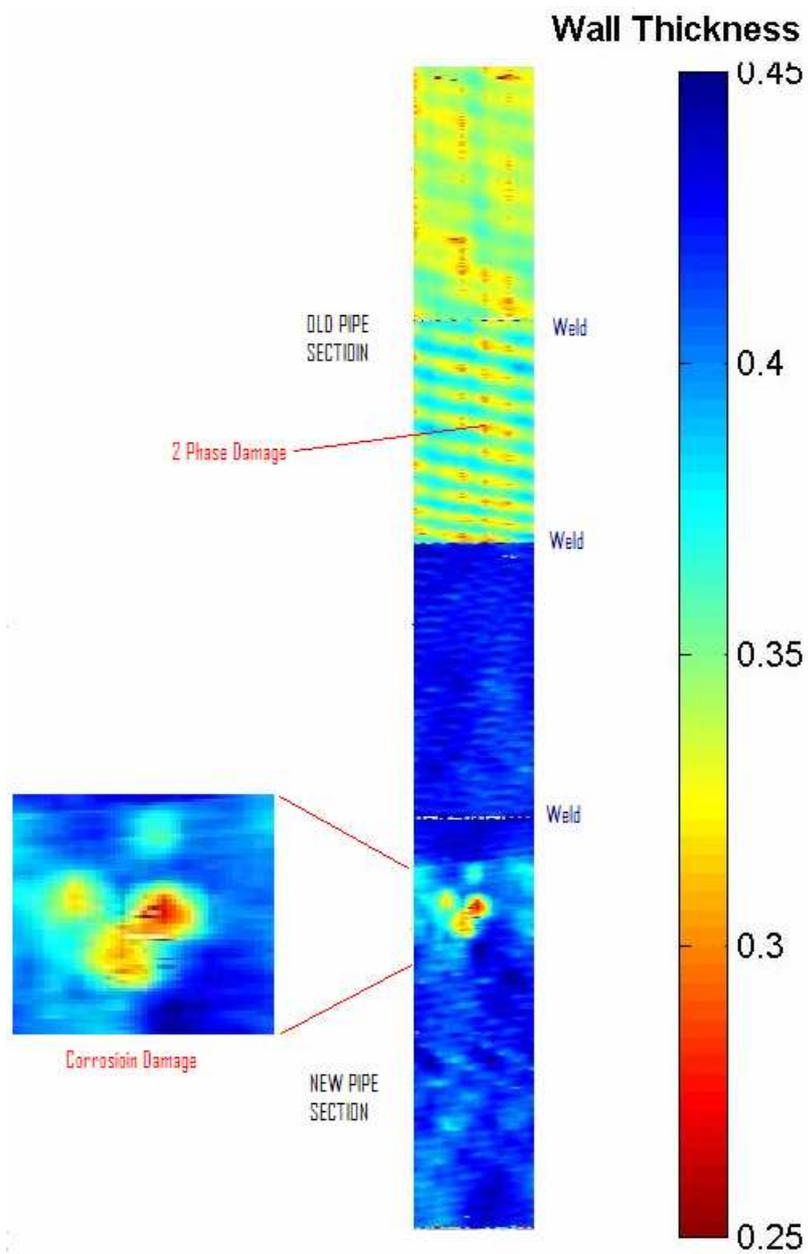

Figure 4. FTIS Inspection Results
The two-dimensional coil layout graphic also allows the data analyst to zoom in on specific flaws, if necessary. As Figure 4 demonstrates, small features such as isolated pitting can be easily identified and quantified with this type of high resolution graphic data capability.
- FTIS™ data showed severe corrosion damage in "both" new and old coil sections (see Figure 4).